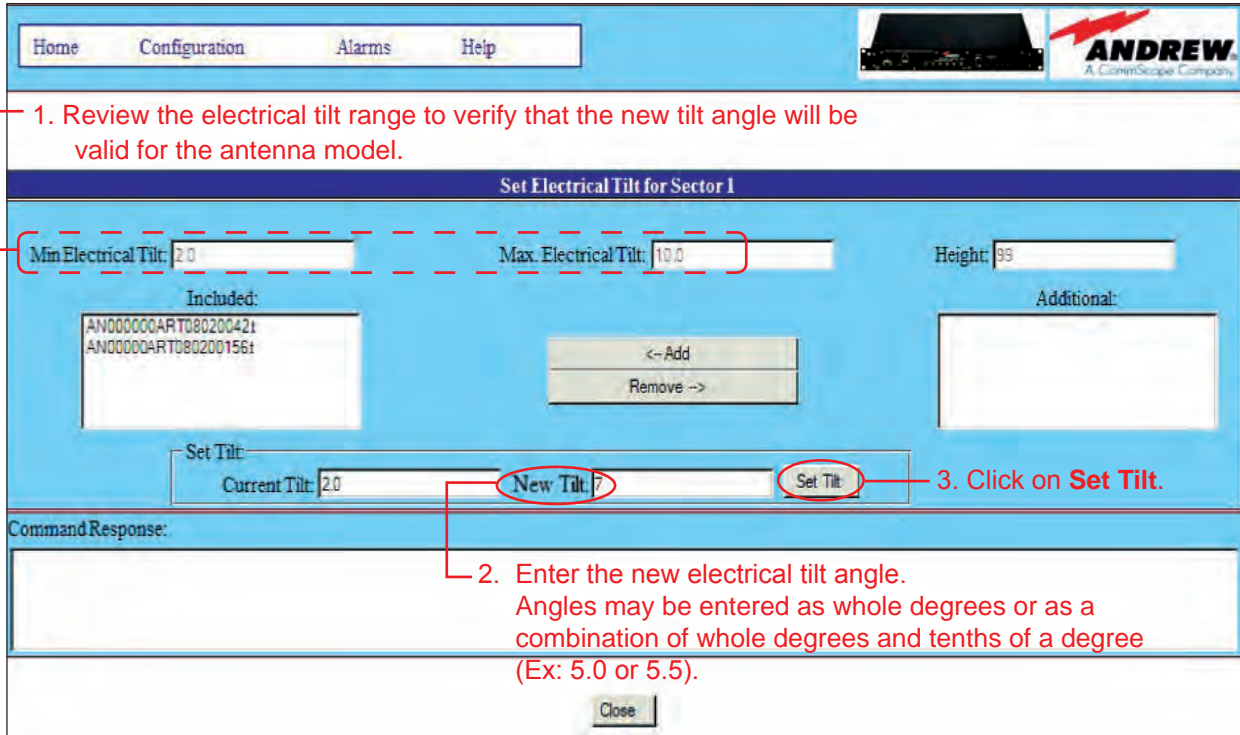
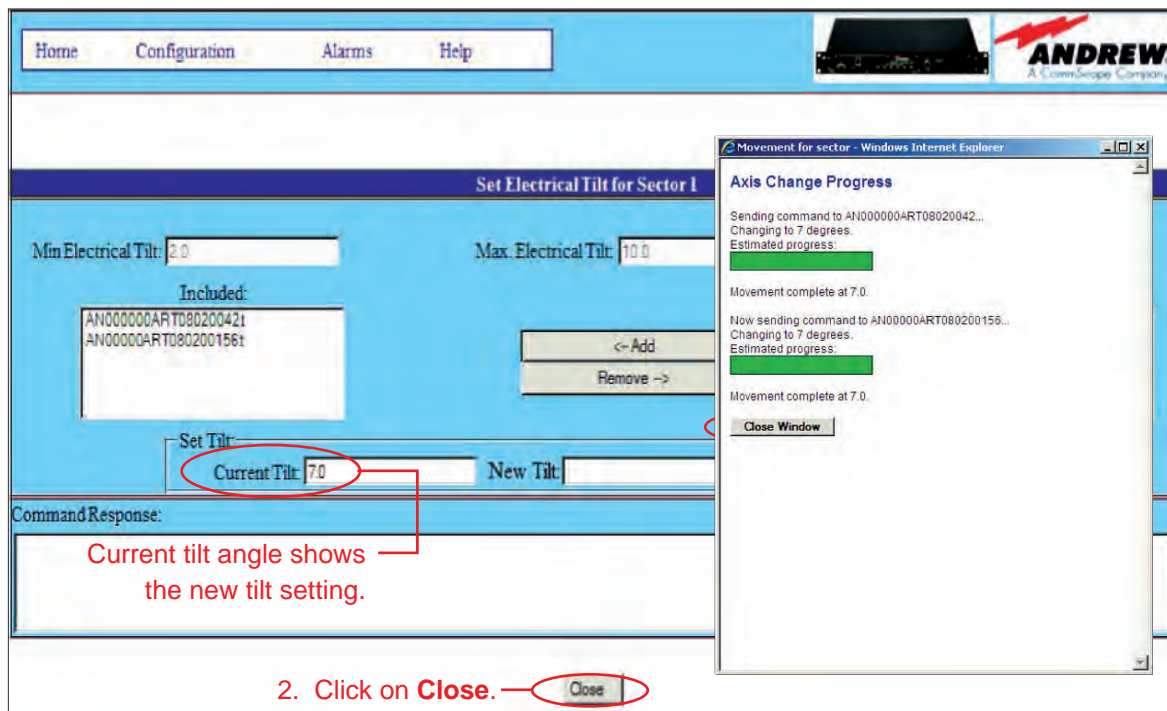

Figure 22-3. Changing Electrical Tilt Setting For Antennas In Sector Move.
Figure 22-4. Tilt Change Is Complete For Sector Move.
5. When satisfied with the list of antennas that will be included in the group move, enter a new downtilt angle in the **New Tilt** text entry field, and click on **Set Tilt** to begin the move (Figure 22-3). Progress for each antenna movement in the group will be displayed separately (Figure 22-4). (Note that these fields will have the appropriate labels for the axes selected.)
6. You will be notified when all antennas have successfully reached the new tilt angle. Click on **Close Window** from the pop-up window (Figure 22-4).
7. The new angle will be displayed in the **Current Tilt** field and the **New Tilt** field will be cleared. If further adjustments are needed, they may be done before exiting this screen. When the desired adjustments are complete, click on **Close** (Figure 22-4) to return to the controller's main interface screen (Figure 22-5).